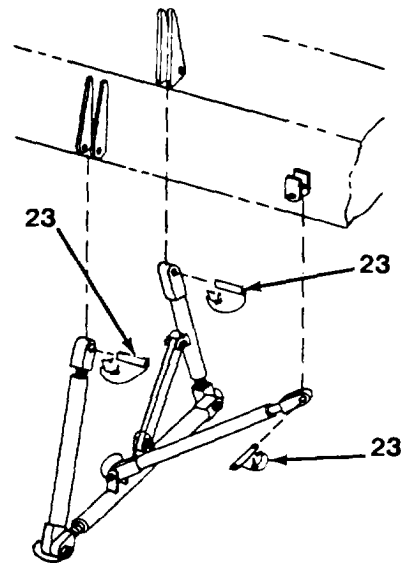

Figure 5-37 Boom Support Removal
8. Remove three pins (23, Figure 5-37) from boom support that connects it to upperstructure and remove boom support. Set aside for later disassembly and storage.